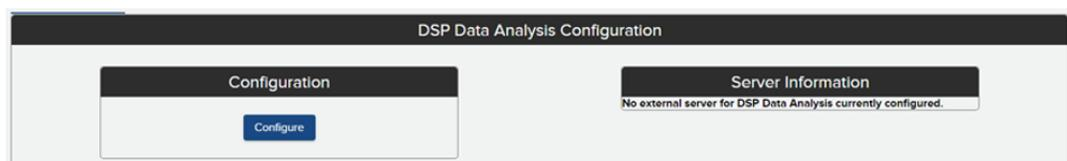

Figure 78: Auxiliary server configuration window before pairing
2. Click the **Configure** button (Figure 78).